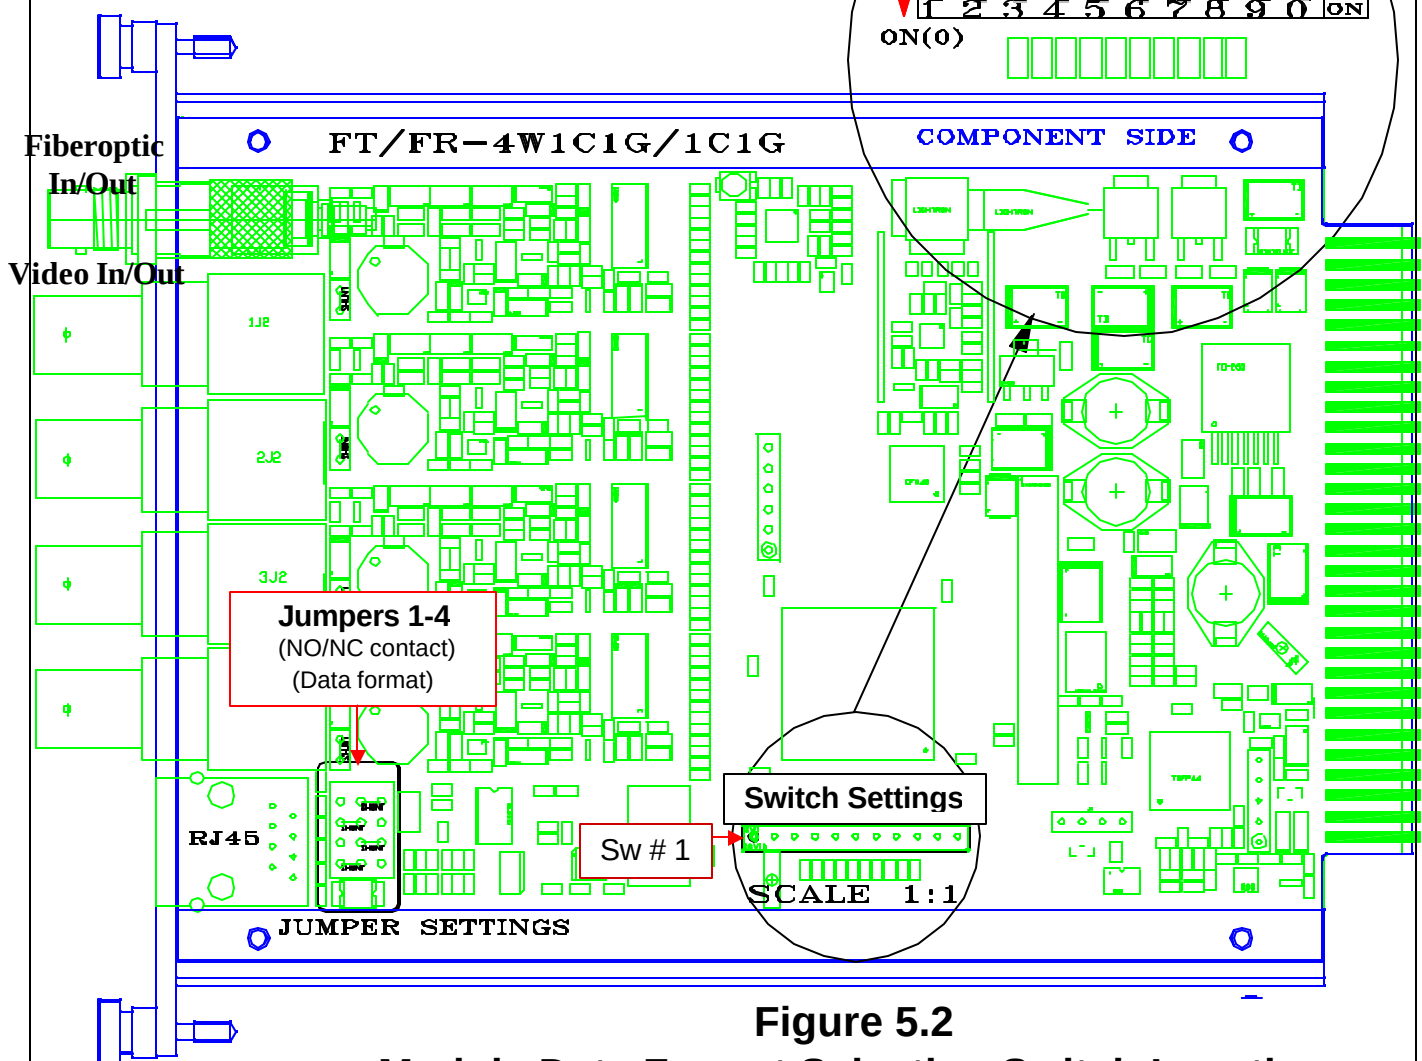

Figure 5.2
The sections below illustrate how to change the various contact mapping conditions. For jumper and switch locations see Figure 5.2
A group of 10 switches is located on the bottom center of the module's circuit card (see Figure 5.2). The left two (2) of these switches control the data format that is transmitted/received. These switches on both the transmitter and receiver must be set the same in order to have proper data communications format between them. FT and FR modules can be configuring different for data format conversion (see Figure 5.1)